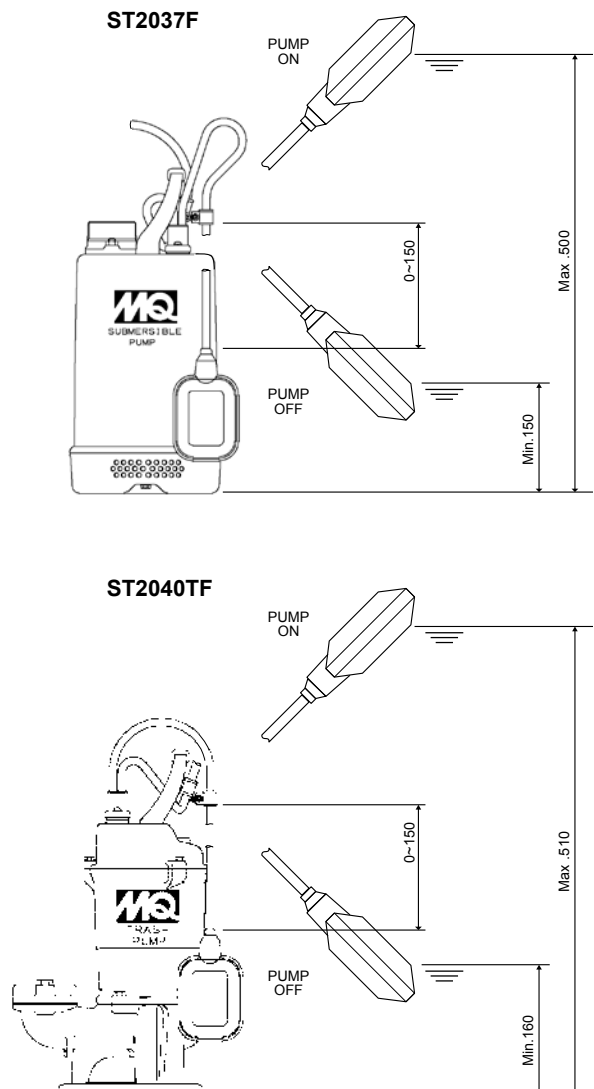

Figure 4. Pumping Range (Float Switch)
Refer to Figure 4 for the pumping range of the ST2037F and ST2040TF. The minimum submergence level should never be less than 150 mm for the ST2037F or 160 mm for the ST2040TF above the pump bottom.
1. Determine the required cord tether length as shown in Figure 4.